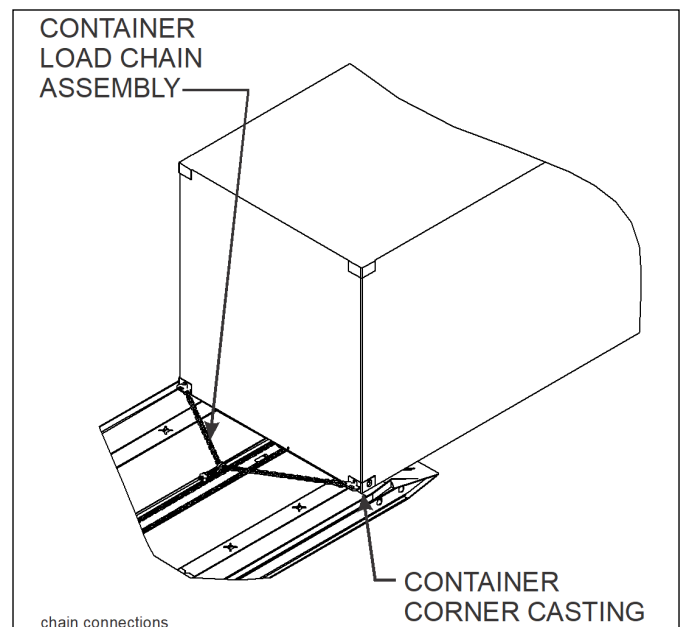

Figure 3-6: Chain Connections
- c. Connect the container chain harnesses provided with trailer to the container corner castings (**See Figure 3-6.**)